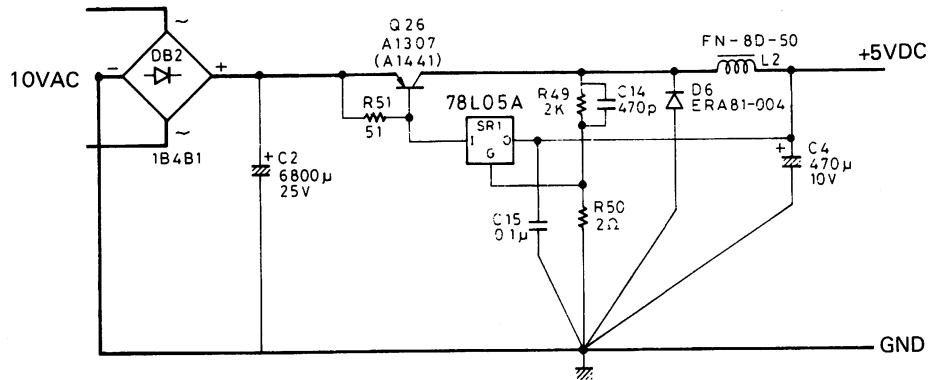

Fig. 2-12. +5V DC Regulator Circuit
2.2.3.2 +5V Regulator Circuit (Fig. 2-12)